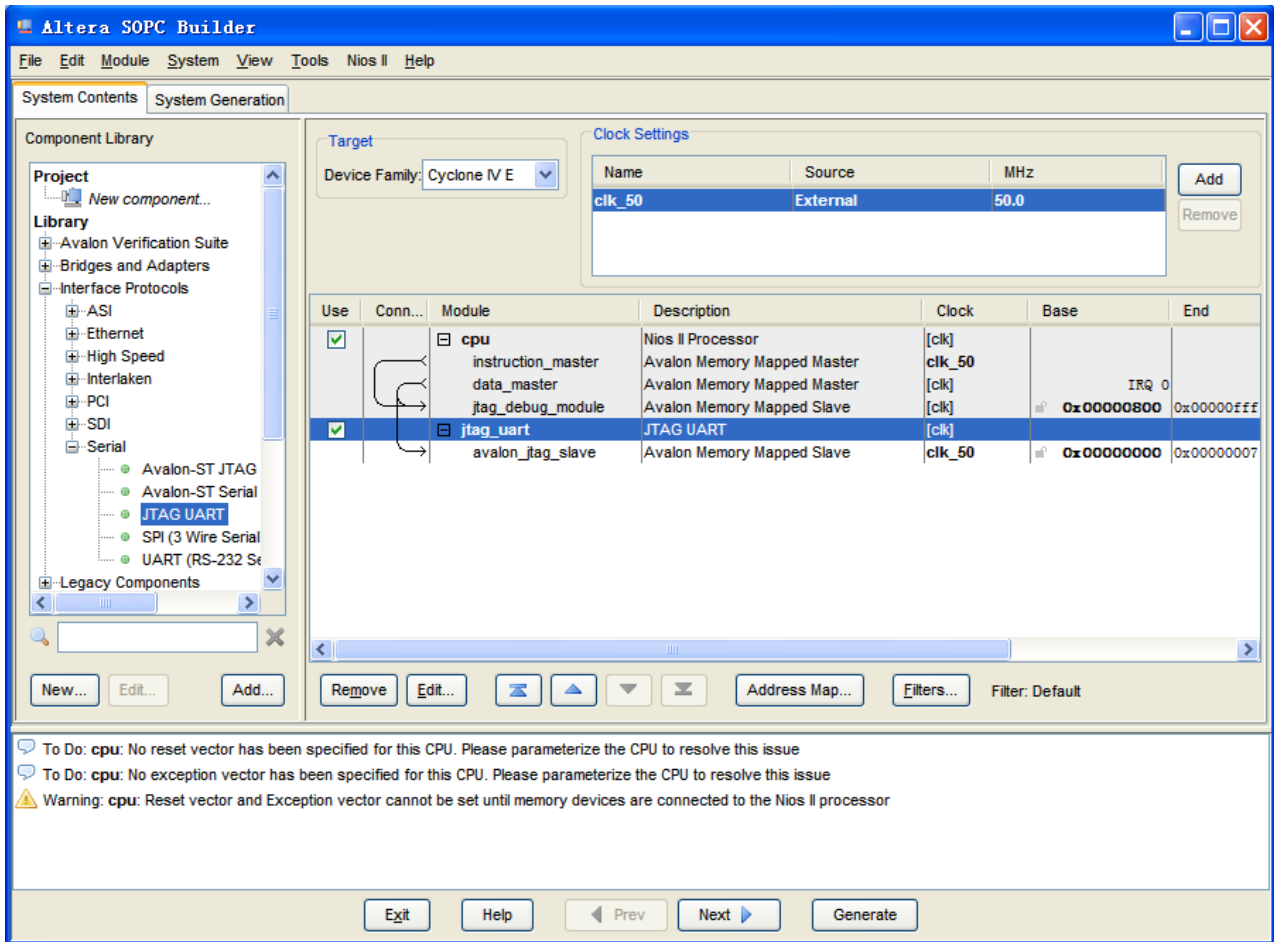

Figure 7-22 Rename JTAG UART
13. Select the **jtag_uart_0** component and rename it to **jtag_uart** as shown in **Figure 7-22**.